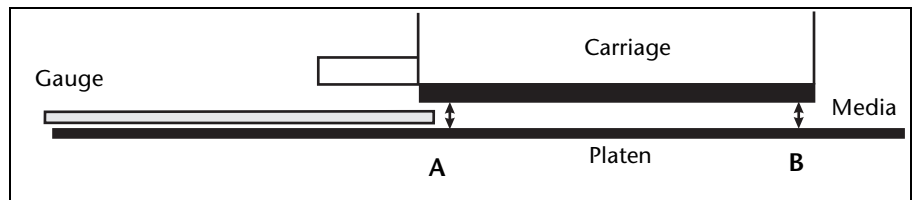

Fig. 5-6. Head height measurement points A and B
7. Position either the minimum or maximum head height gauge as shown in Fig. 5-6.
8. Use the supplied hex wrench to turn one of the head height adjustment screws counterclockwise until the end of the gauge will *not* fit under the carriage as shown in Fig. 5-6.